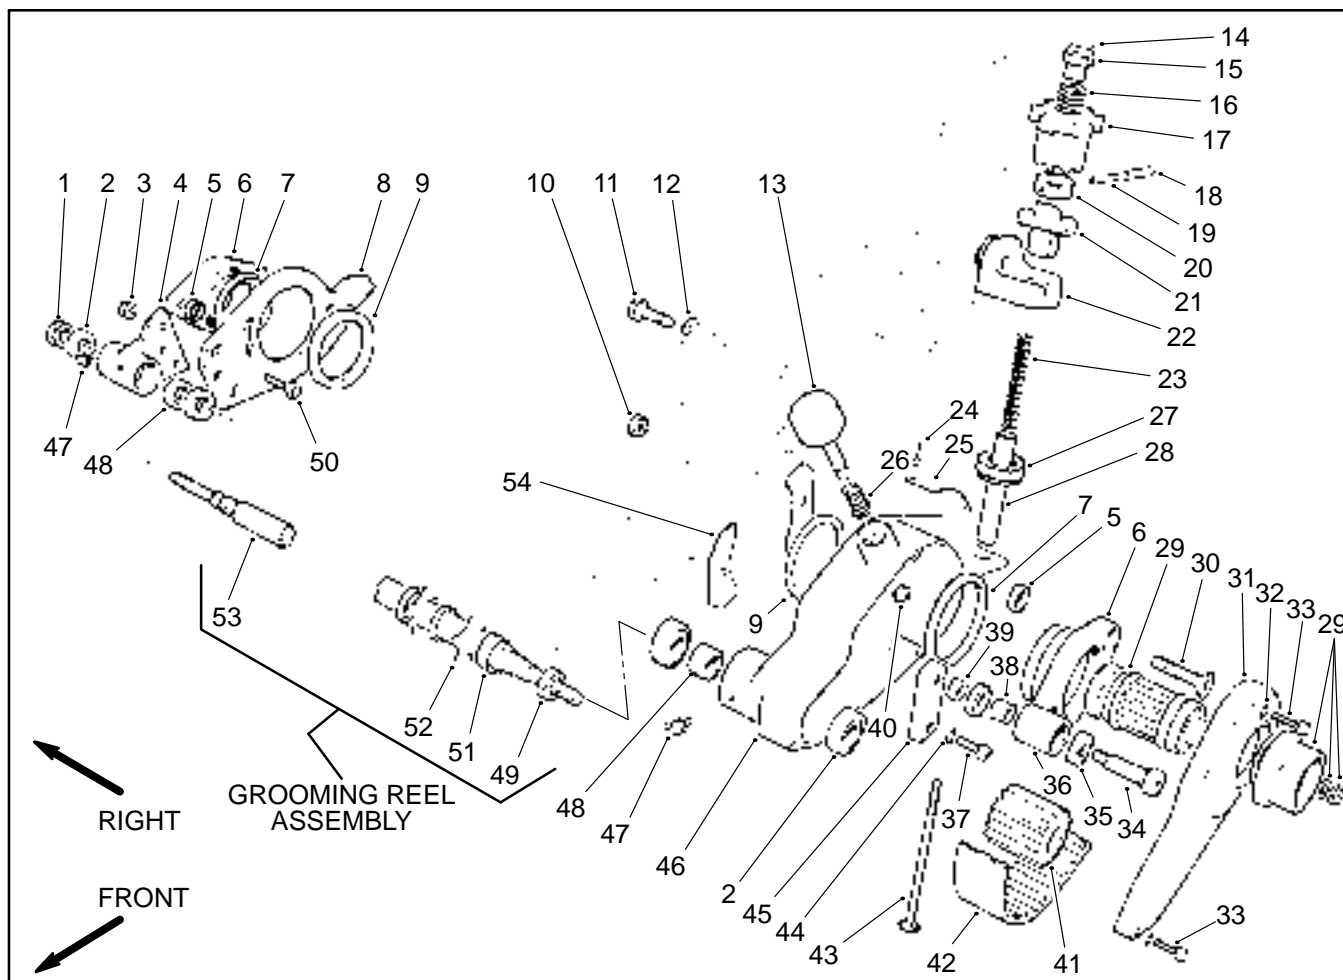

Figure 5
4. In the belt drive housing (46), disassemble the following parts (Fig. 5):
- A. Loosen socket head cap screw (37). Pivot idler pulley (36) away from the drive belt (42). Remove drive belt from the driven pulley (41).
**Note:** The driven pulley (41) has **left handed** threads.
- B. Use an allen wrench to remove driven pulley from the shaft (53).
5. From the right side of the mower, remove the following (Fig. 5):
- A. Remove lock nut (1) that secures the shaft (53) to the bearing housing (4).
- B. Remove three flat head socket screws (50) and lock nuts (3), then remove bearing housing from the side plate (8) and shaft.
- C. Pull grooming reel assembly from the belt drive housing (46).
**Note:** The driven pulley (42) has **left handed** threads.
2. Place grooming reel shaft (53) into the belt drive housing (46). Screw driven pulley (41) on the shaft. **Do not tighten** (Fig. 5).
3. From the right side of the mower, install the following (Fig. 5):
- A. Install bearing housing (4) onto the other end of the shaft (53) and side plate (8).
- B. Secure the bearing housing to the side plate with three flat head socket screws (50) and lock nuts (3).
- C. Secure lock nut (1) to the shaft.
4. While holding the lock nut (1), tighten driven pulley (42) to the shaft (53) (Fig. 5).